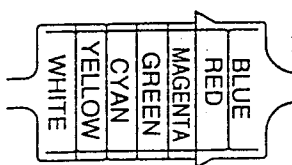

Figure 2-12.
4. Adjust FL5304 (4.3MHz bell filter) so that the match with the flat portion of the red and blue as shown in Figure 2-12.